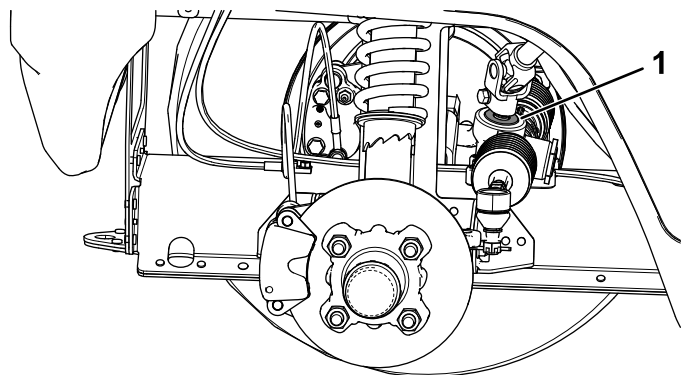

Figure 50
- Important:** Inspect the condition and security of the pinion-shaft seal (Figure 50).